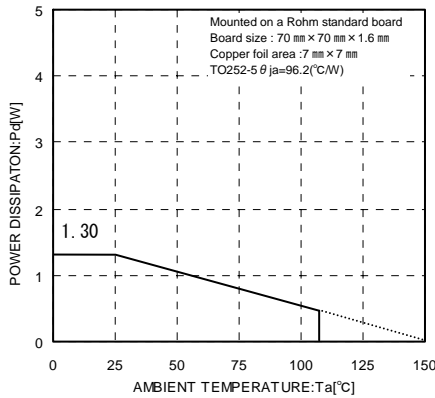
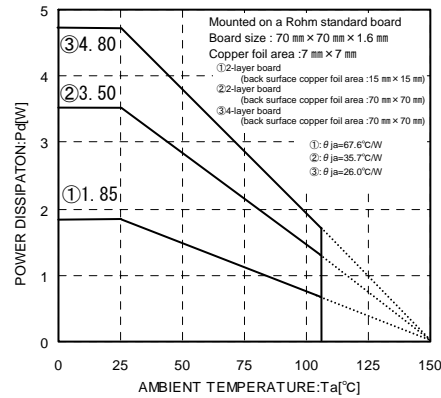

Fig.26
Fig.27(Reference data)
When using at temperatures over $T_a=25^\circ\text{C}$, please refer to the heat reducing characteristics shown in Fig.26 and Fig.27. The IC characteristics are closely related to the temperature at which the IC is used, so it is necessary to operate the IC at temperatures less than the maximum junction temperature $T_{j\text{max}}$.
Fig.26 and Fig.27 show the acceptable loss and heat reducing characteristics of the TO252-5 package. Even when the ambient temperature T_a is a normal temperature (25°C), the chip (junction) temperature T_j may be quite high so please operate the IC at temperatures less than the acceptable loss P_d .
The calculation method for power consumption $P_c(\text{W})$ is as follows : (Fig.27③)
$$I_o \leq \frac{2.496 - 10 \times I_b}{5} \quad \left[\begin{array}{l} \text{Fig.27③: } \theta_{ja}=26.0^\circ\text{C/W} \rightarrow -38.4\text{mW}/^\circ\text{C} \\ 25^\circ\text{C}=4.80\text{W} \rightarrow 85^\circ\text{C}=2.496\text{W} \end{array} \right]$$